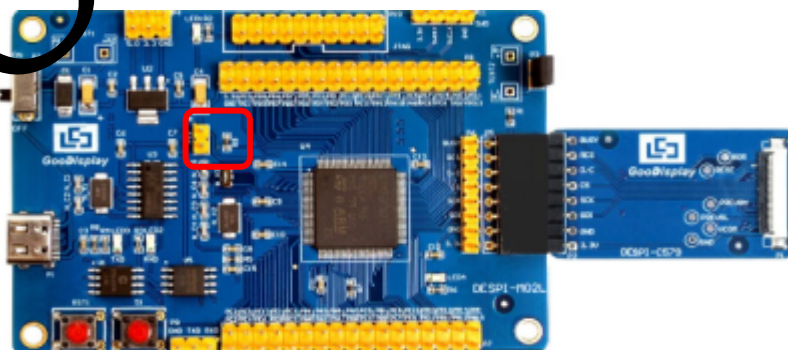

Figure 11 :The position of P12
- 3) Connect P12 with a short-circuit jumper, the position of P12 is shown in Figure 11.